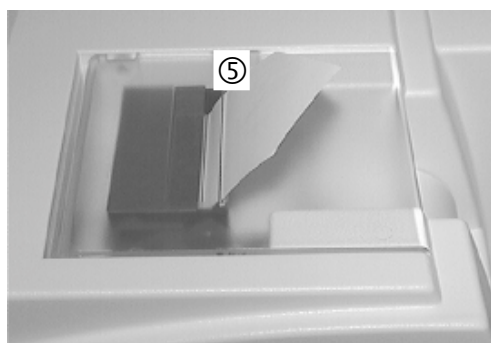

Fig. 36
7. Feed the paper through the slot in the printer cover and then close the printer cover ⑤ (Fig. 36).
6. Feed the paper through the slot in the printer cover and then close the printer cover ⑤ (Fig. 36).